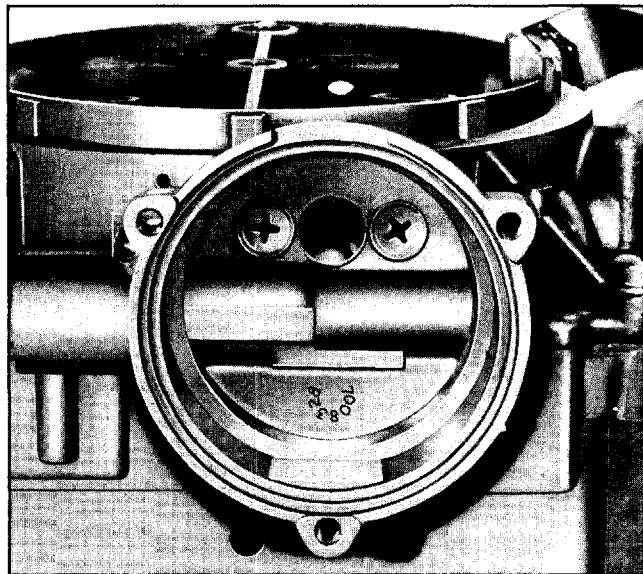

Fig. 6B-116 Location of Choke Housing Attaching Screws
6. Remove fast idle cam attaching screw and remove choke counterweight rod and fast idle cam as an assembly (Fig. 6B-115).